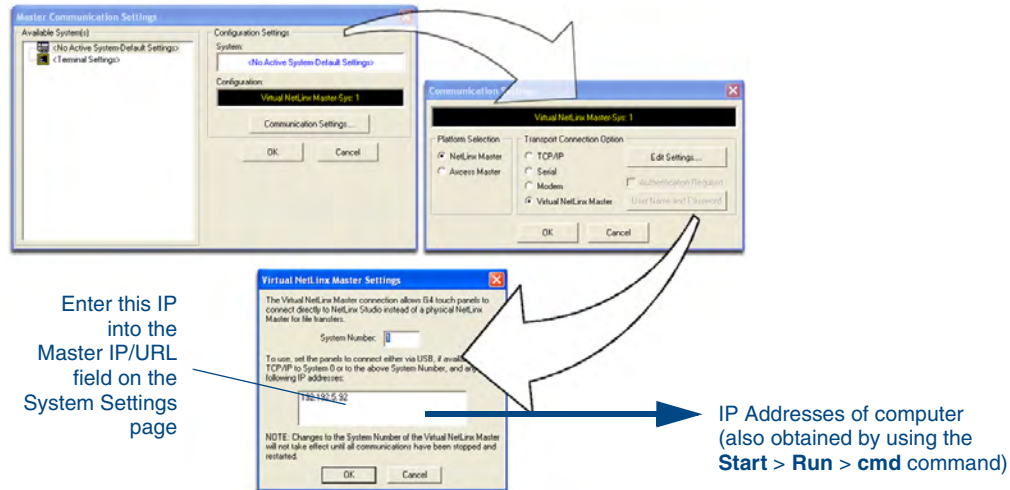

FIG. 29 Assigning Communication Settings and TCP/IP Settings for a Virtual Master
3. Select **Settings > Master Communication Settings**, from the Main menu to open the Master Communication Settings dialog (FIG. 29).
7. Click the **Edit Settings** button (*on the Communications Settings dialog*) to open the Virtual NetLinX Master Settings dialog (FIG. 29).